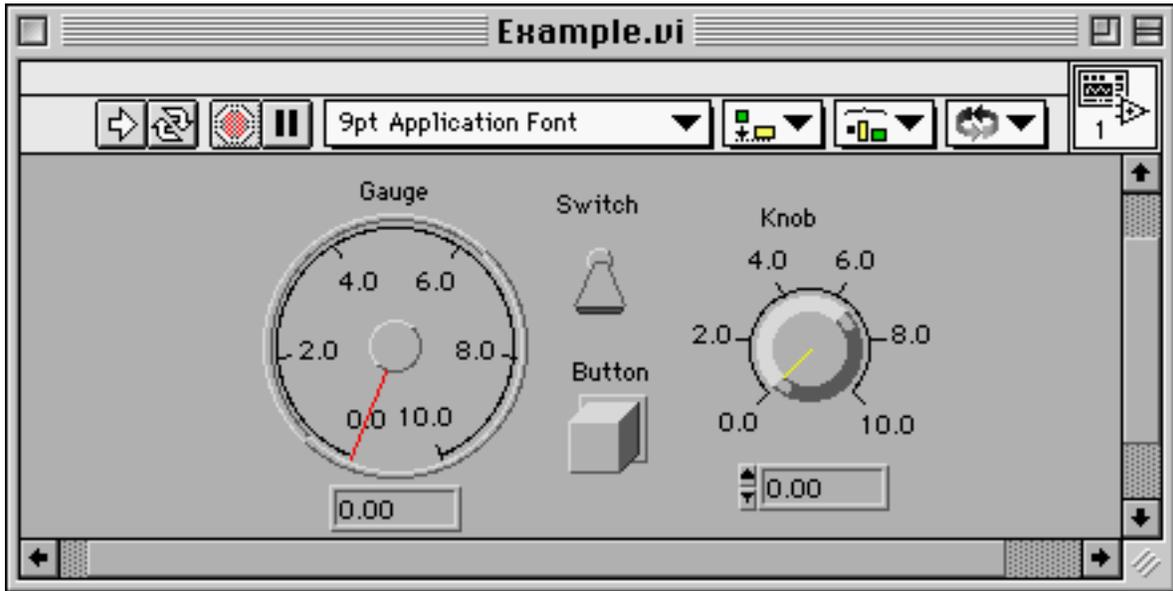
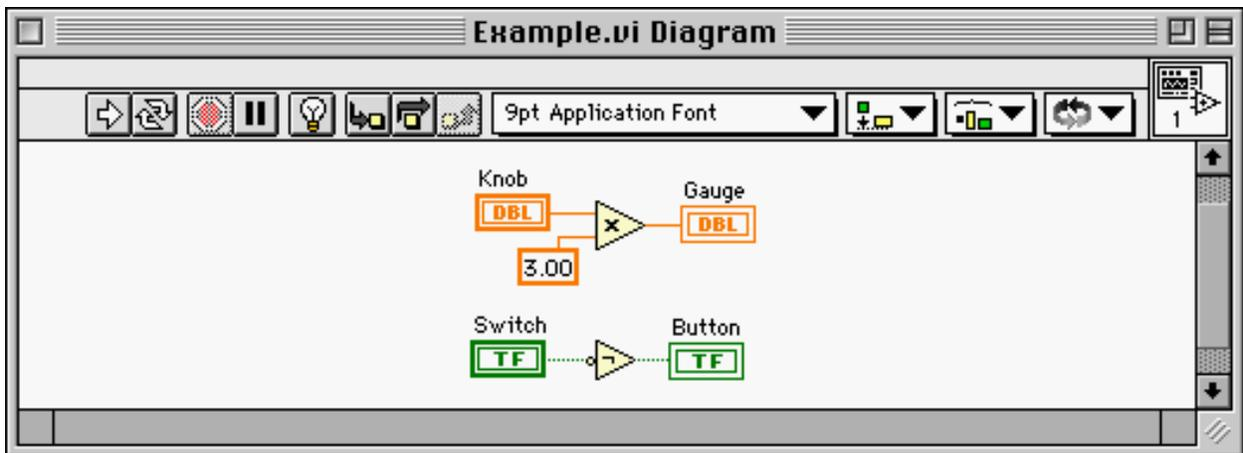

Figure 2.1 Front panel of a VI. All of the screen shots of VIs in this book are used with the permission of National Instruments.
Figure 2.2 Diagram window of a VI
When you launch LabVIEW by double clicking the icon of LabVIEW, it will come up with two windows: one with a gray background which is called the front panel, and the other with a white background which is called the diagram window. Figure 2.1 and Figure 2.2 show them, respectively. LabVIEW is a G (Graphical)-programming language for virtual instrumentation (VI), and these two windows reflect the characteristics of G-language.
In this section, you will build a simple example step by step. If you have not yet done so, invoke LabVIEW by double clicking its icon. It will come up with the startup window as shown in Figure 2.5. Note that LabVIEW tutorial is only available on PC platforms; therefore, it will be grayed out on Macintosh platforms as shown in Figure 2.5. Click on **New VI**, and this will bring up two windows as shown in Figure 2.1 and Figure 2.2. Go to the front panel by selecting the window with the gray background. Right click on any place in the gray window to bring up the **Controls** palette. You will see many icons (sub-palettes) that will be studied later. When the **Controls** palette comes up, fix it to the desktop by pointing the mouse arrow to the thumb pin located in the upper left corner of the palette. Once you fix it, point the mouse arrow to the first